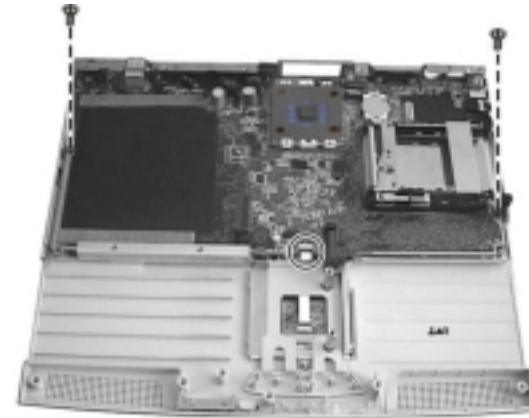

Figure 2-31
9. Remove two screws fastening the system board and disconnect the cable of the touchpad. Now you can lift the system board up from the base unit. (figure 2-31)